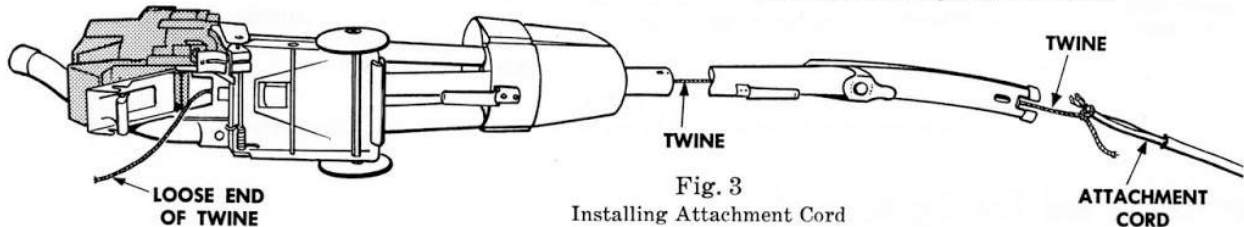

Fig. 3
- Remove Cord from handle, pulling through grip end. *See Fig. 3.*
- Tie a length of twine or wire to terminals on end of cord to use as a finder as shown in *Fig. 3* and remove cord.